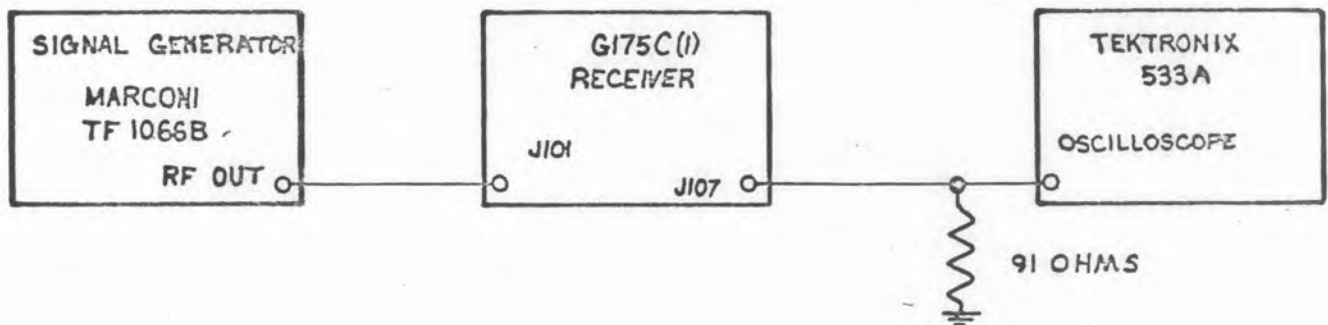

Figure 5-21
- a. Connect equipment as shown in figure 5-21.
a. Connect equipment as shown in figure 5-21